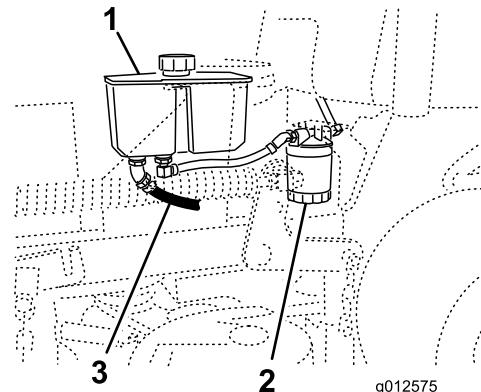

Figure 74
- Locate the front hydraulic hose under the hydraulic tank and place drain pan under the tank (Figure 74).